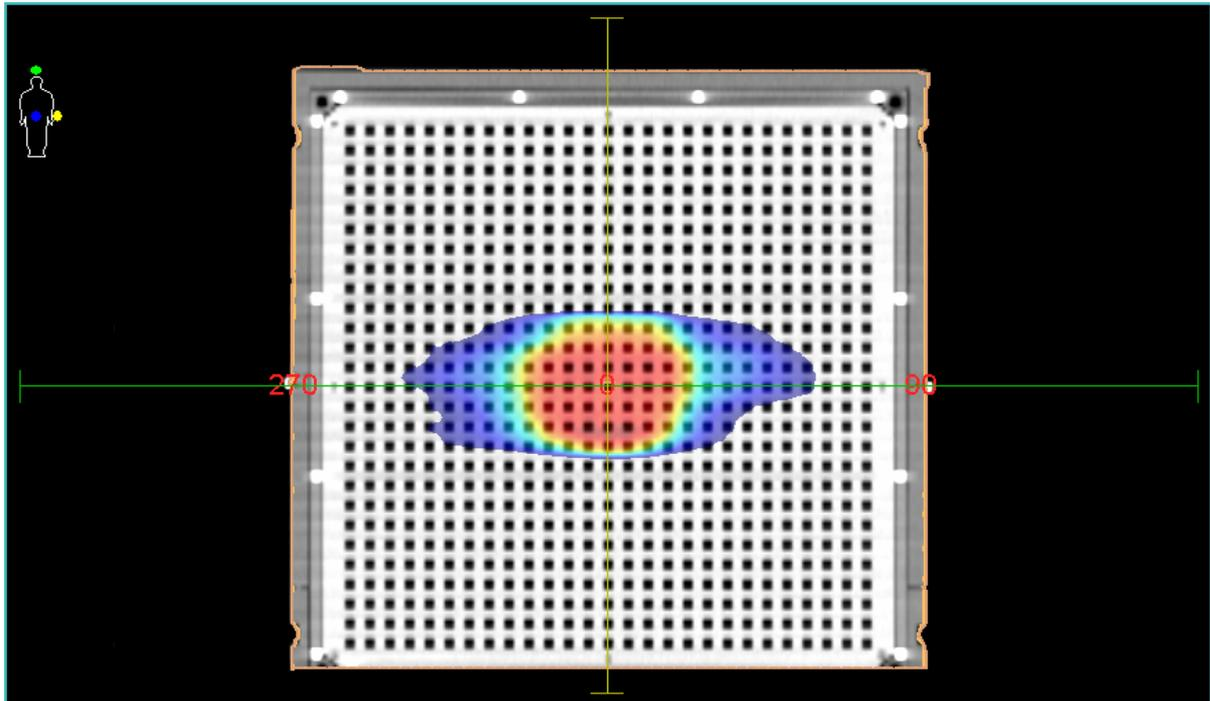

Figure 14 - selection of the 2D section (for example, coronal slice) whose dose matrix has to be exported
- select the desired 2D section (in general it's a coronal slice) passing through the effective measurement point of the detector, whose dose matrix has to be exported (Figure 14);